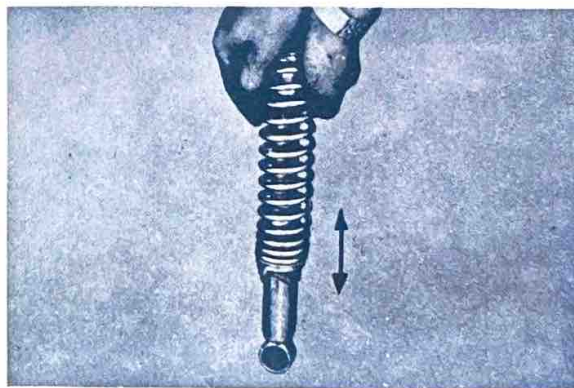

Fig. 5-6-2
2) Compress the shock by applying weight as shown in Fig. 5-6-2, and release it.